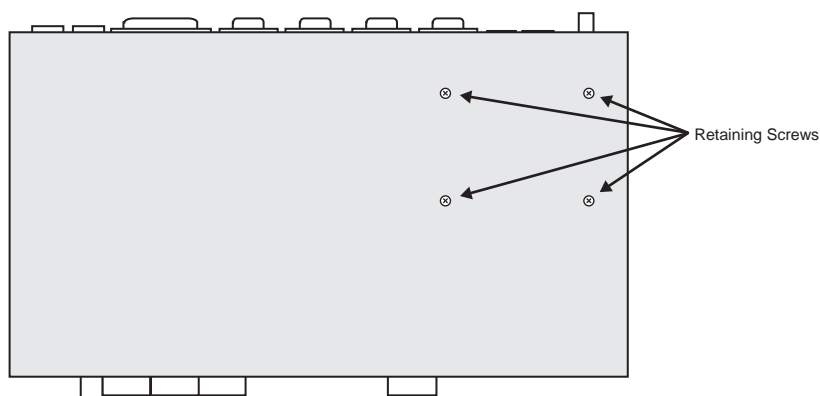

Figure 18.15 CPU Board — Retaining Screws Location
6. Locate the four **Retaining Screw** securing the **Hard Drive** in place (**Figure 18.15**).